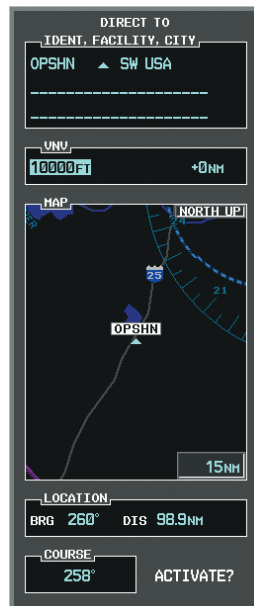

Figure 5-119 Enter VNV Altitude
- d) Turn the large **FMS** Knob to place the cursor in the VNV altitude field as shown in Figure 5-119.